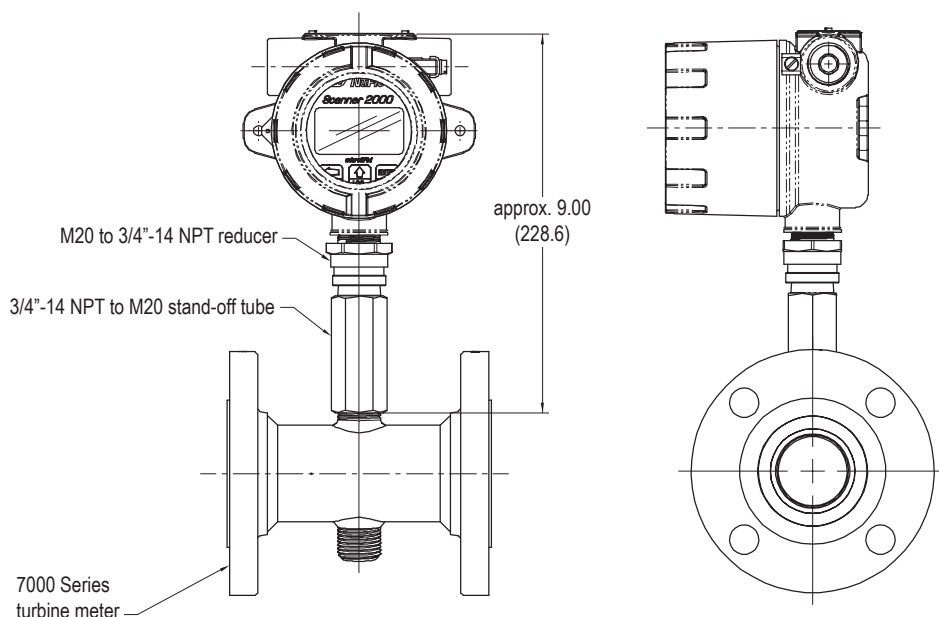

Figure 2.3—Scanner 2000 direct-mounted to a Barton 7000 Series flowmeter (ATEX-approved only when direct-mounted to a Barton 7000 Series flowmeter)
- Direct-mount to a turbine meter. The CSA-certified instrument can be mounted to a turbine meter using a pipe adapter and union connection (Figure 2.2, page 31). The ATEX-certified instrument can be mounted to a Barton 7000 Series meter using a turbine meter pickup extension (Figure 2.3, page 32).